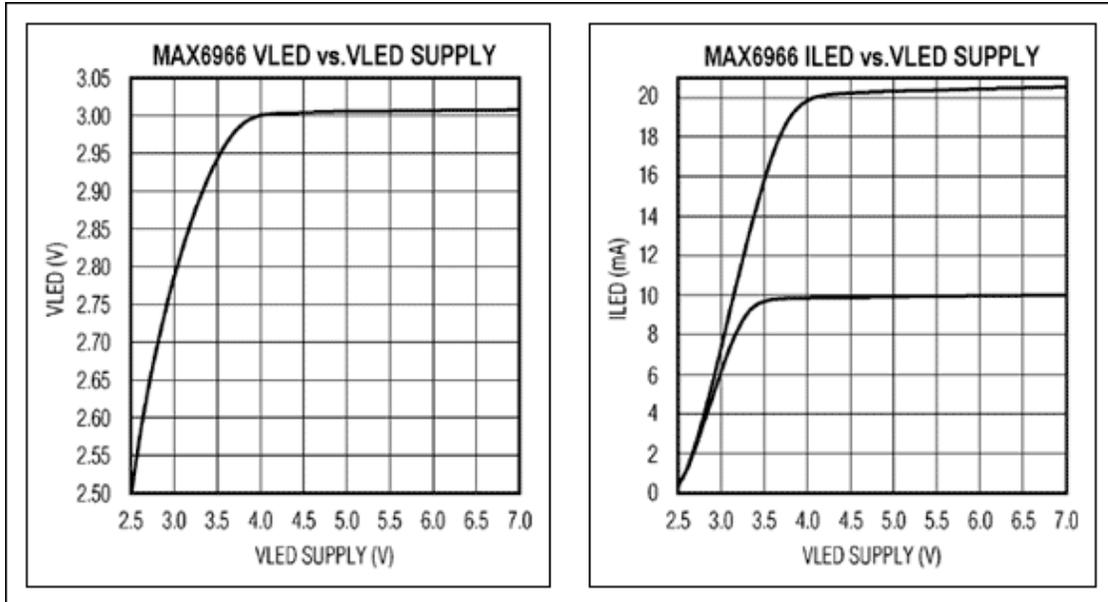

Figure 3. MAX6966 constant-current outputs drive white LEDs directly from a cell-phone battery.
**Figure 3** shows the typical current sunk by a 3V blue LED (LITEON LTST-C170TBKT) as the LED supply voltage is varied from 2.5V to 7V. The LED currents shown are driven by ports programmed for 10mA and